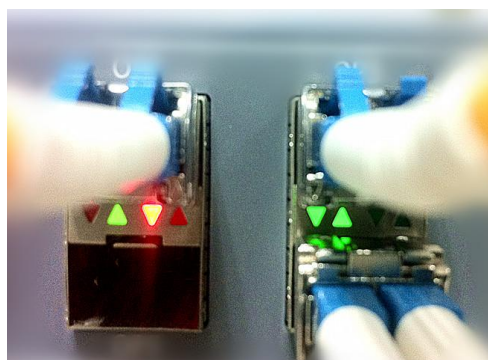

Figure 7-3 Optical SYNC Status
The optical connector unit includes an optical module and optical fibre. Figure 7-2 shows that when using a pair of single optical fibre-modules, the wavelength of the two modules is different, for example 1271nm & 1331nm are two wavelength of a pair of Bidirectional Optical Fiber Module. See Table 7-1 for the optical fibre module corresponding to each port. Every time connecting two devices, check optical transceiver indicators of both devices. The green indicators mean two devices are synchronized. When the optical module is unplugged or not synchronized, the indicators are red as shown in the left pair of indicators in Figure 7-3.
Each pair (2) of optical module cages has four LED indicator arrows. Two arrows on the left are green and two on the right are red as shown in Figure 7-3. The indicator arrows represent the synchronization status of the upper and lower optical modules. When optical module A has synchronized with module B (both uplink and downlink), the indicators turn green as shown in the right pair of indicators in Figure 7-3. When the optical module is unplugged or not synchronized, the indicators are red as shown in the left pair of indicators in Figure 7-3. Check whether both indicators turn green after connecting one pair of optical modules. If they are red, the terminal has not synchronized.